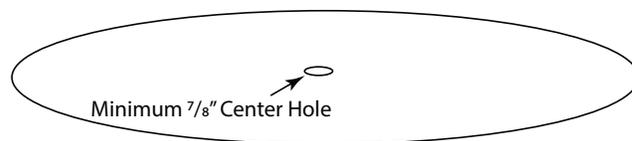
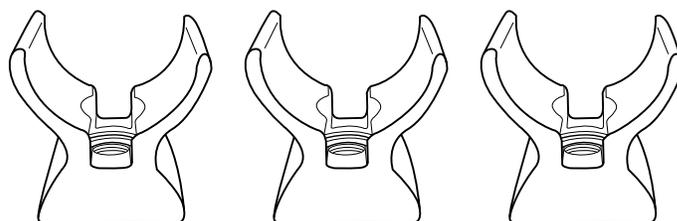
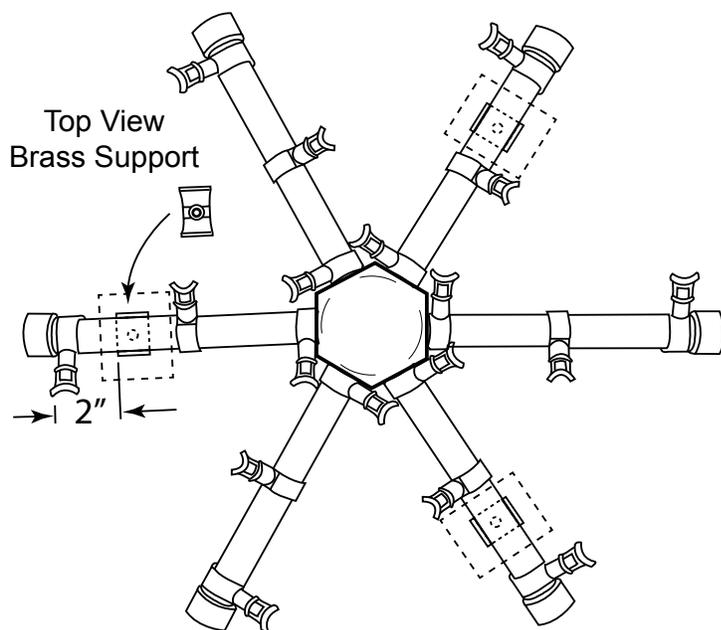

Fig. 4 Shows burner pan center hole.
Fig. 6 Brass burner supports.
Fig. 7 Locating brass burner supports.
The burner pan requires a center hole a minimum of  $\frac{7}{8}$ -inch in diameter (Fig. 4). The burner also is supplied with (3) brass burner supports required for assembly (Fig. 6).
**Step 2:** Using the brass burner supports (supplied) in Fig. 6, install one support on every other leg, 2-inches from the end of each leg. See Fig. 7. The Pro Spur will fit snug into each burner support. **Note:** The parts bags is supplied with (4) brass burner supports. Only (3) are used with the Pro Spur burner.